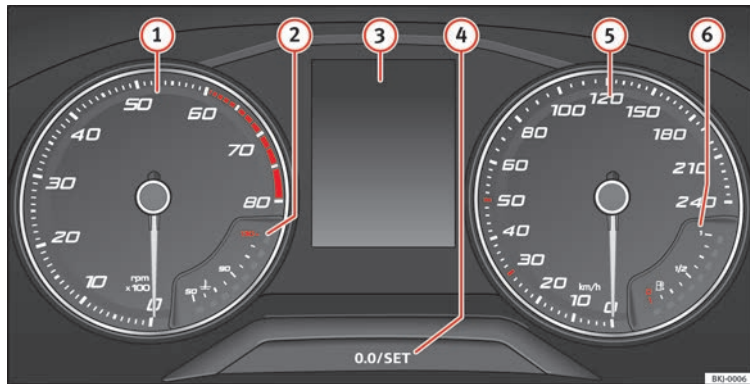

Fig. 125 Instrument panel, on dash panel.
The rev counter indicates the number of engine revolutions per minute » **Fig. 125 ①**.
Never allow the rev counter needle **①** » **Fig. 125** to go into the red zone on the scale for more than a very brief period, otherwise there is a risk of engine damage.
A variety of information can be viewed on the instrument panel display » **Fig. 125 ③** depending on the vehicle equipment:
- Briefly press the button » **Fig. 125 ④** to reset the trip recorder to 0.
- Keep the button **④** pressed for about 3 seconds and the previous value will be displayed.
- To set the time, keep the button **» Fig. 125**  pressed for more than 3 seconds to select the hour or minute display.
Hold the button **» Fig. 125**  down for more than 15 seconds to display the identifying letters of the vehicle engine (MKB). To do this, the ignition must be switched on and the engine switched off.